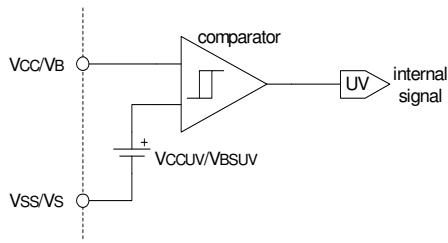

Figure 1: Undervoltage Diagram
**Pins:  $V_{CC}$ ,  $V_{SS}$ ,  $V_B$ ,  $V_S$  (refer to Fig. 1)**